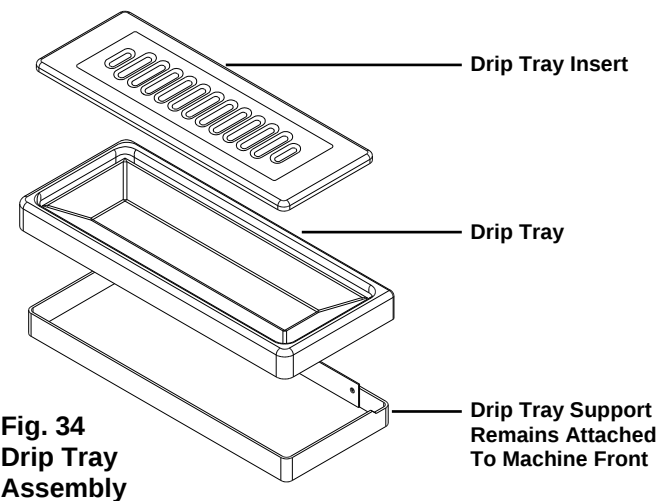

Fig. 34
5. Install the drip tray and drip tray insert (Fig. 34).